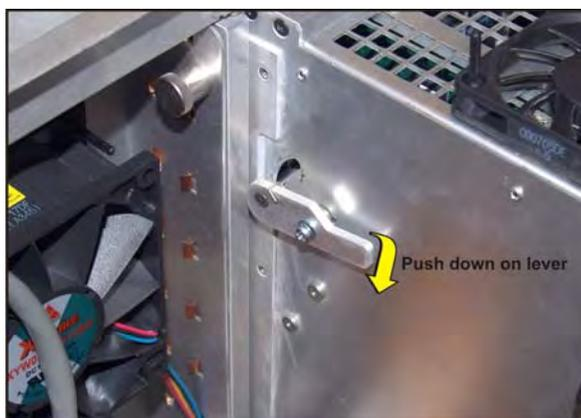

Figure 5-24 Spring Latch for Security Ring
4. Release the security ring by pressing down on the latch located on the inside of the cardcage (**Figure 5-24**). **NOTES: 1)** Marriage is broken when this latch is toggled. **2)** The security ring should only be removed by Christie authorized service technicians.